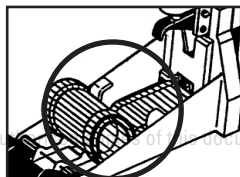

FIG 2
- ii. Loosen the four screws indicated (Fig. 2)